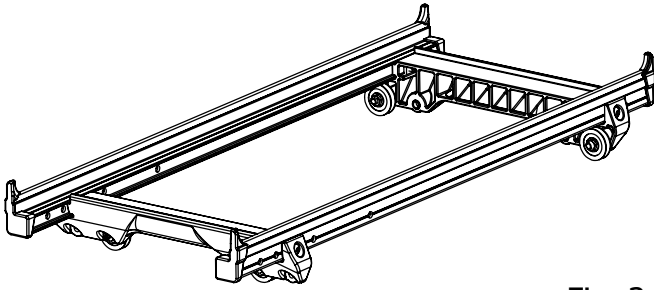

Fig. 3.1
Step 1: Check that your carriage matches the one shown in Fig. 3.1.